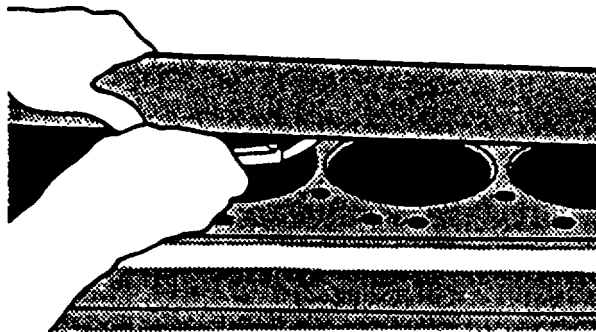

FIGURE 3-160. Measuring Cylinder Block Top Deck Flatness
- (6) Measure cylinder block top deck flatness using precision straightedge refer to FIGURE 3-160. New flatness is 0.003 inch (0.08 mm). If flatness is not as specified, resurface engine block.